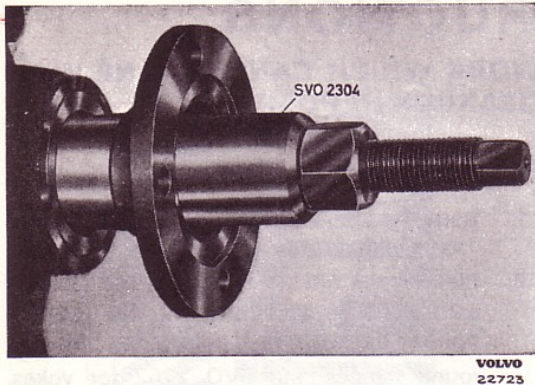

Fig. 16. Fitting flange
4. Press on the flange with SVO 2304, see Fig. 16. Fit on remaining parts.